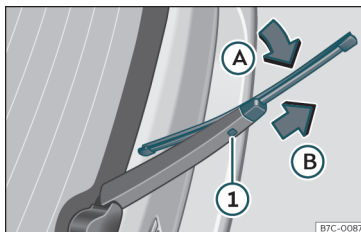

Fig. 69 Changing the rear wiper blade
- Turn the blade slightly >>> Fig. 69 (arrow A).
- Hold down the release button ❶ while gently pulling the blade in the direction of arrow B.